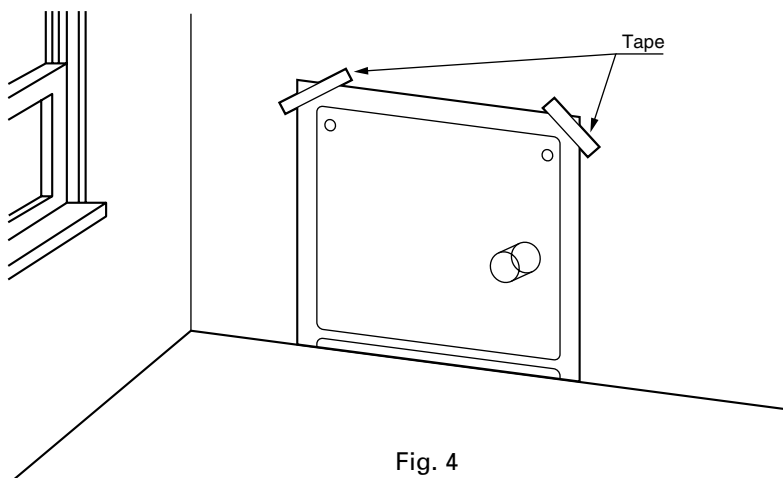

Fig. 4
a. Remove four (4) screws from top plate and remove the top plate.
b. Remove four (4) screws from canopy guard and remove the canopy guard. Remove the heat chamber lid from the heat exchanger.
c. Gently inert the ceramic logs into three (3) brackets inside of burner properly. After inserting the ceramic logs, install log supporter on the upper holes of the ceramic logs. Adjust the log supporter so as to place the logs at the center of the burner.
- For standard installation, use the template enclosed with the heater to position the hole for the flue pipe. Tack or tape template to the wall at the desired position (See Fig. 4).